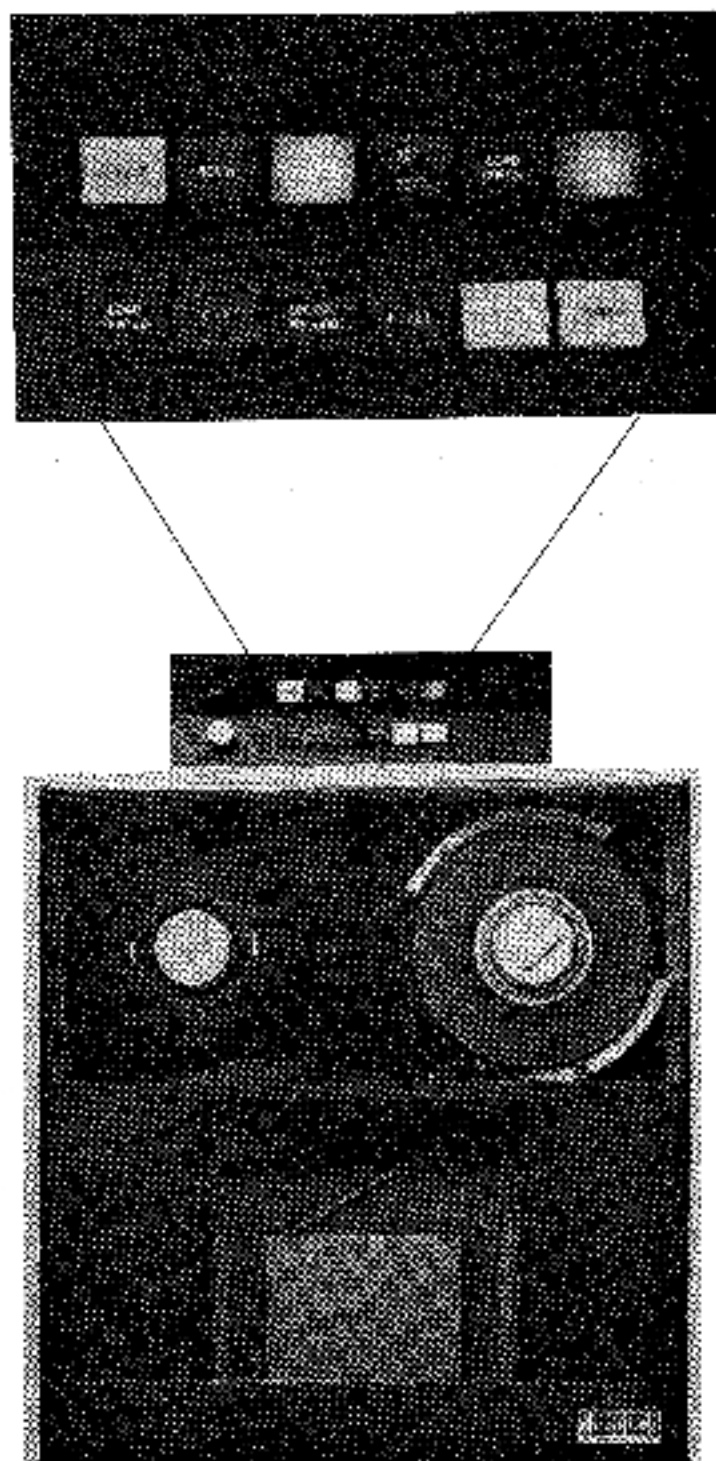

Figure 7-11 TJ40 Series Magnetic Tape Drive
7.4.1.2 TU40 and TU41 Drives (Refer to Figure 7-11)